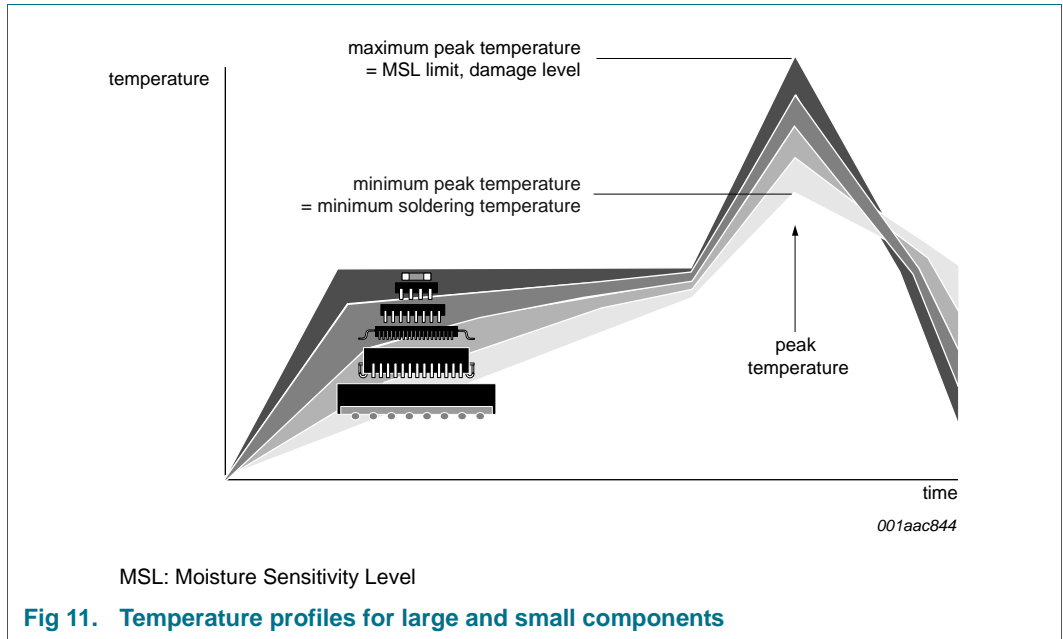

Fig 11. Temperature profiles for large and small components
- Lead-free versus SnPb soldering; note that a lead-free reflow process usually leads to higher minimum peak temperatures (see Figure 11) than a SnPb process, thus reducing the process window
Studies have shown that small packages reach higher temperatures during reflow soldering, see Figure 11.